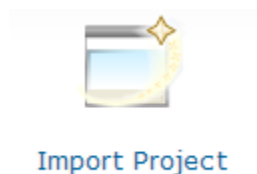

Figure 7 - CCS Project Icon
3. Select Import Project Icon (Figure 7), and point to the Zip file